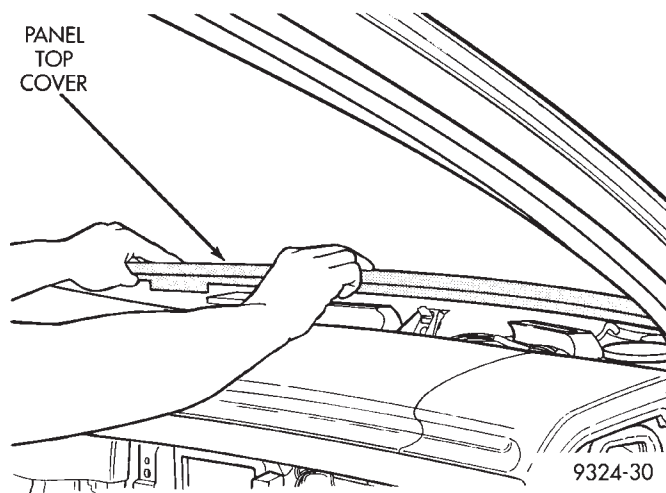

Fig. 55 Panel Top Cover
(18) Remove the instrument panel top cover (Fig. 55). It is held in place by retainer clips at both ends of the cover. To remove carefully pry upward at one end of the cover until the clip is disengaged. Proceed to the opposite side and gradually pry the rear edge of the top cover along the entire width of the panel.